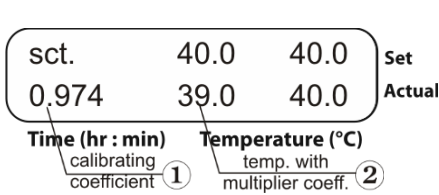

Fig. 3 Control panel in calibration and operation mode
5.4.6. Using the ▲ and ▼ T°C keys (fig. 1/3), change the calibration coefficient (fig. 3/1) so that the new temperature value (fig. 3/2) corresponds to the independent sensor temperature. In our example, the calibration coefficient will be 0.974.